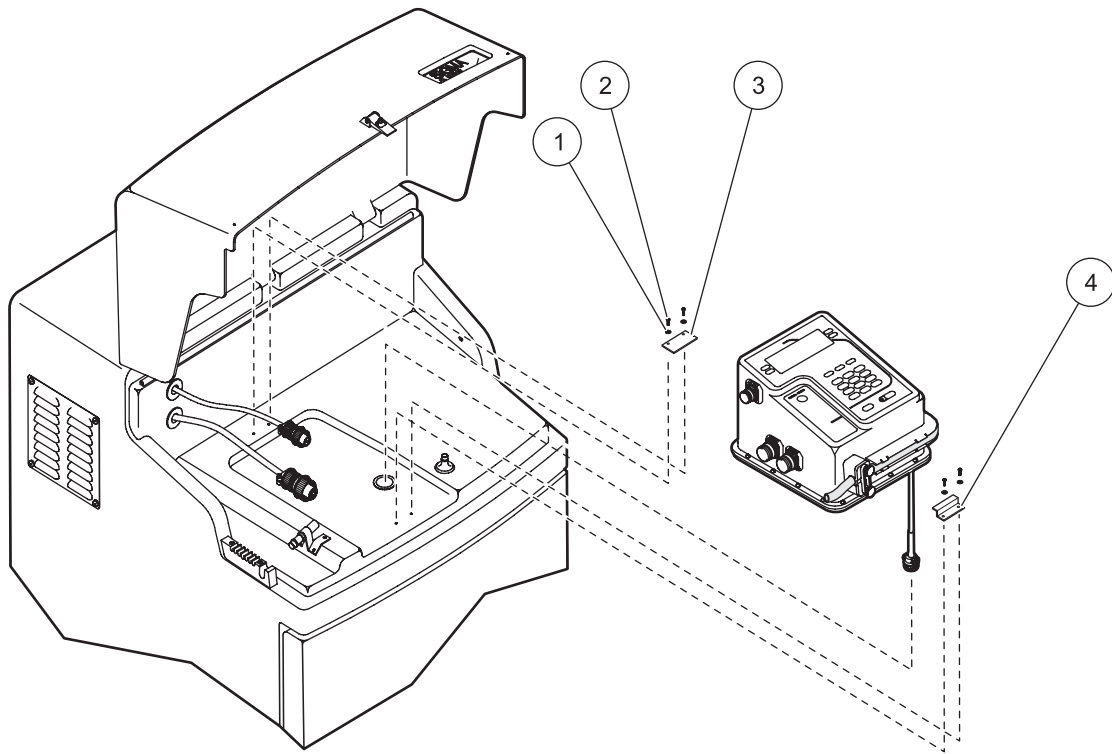

Figure 12 Removal of Sigma 900 controller from AWRS
5. Remove the front and rear brackets that secure the controller (Figure 12). Discard the brackets.
6. Lift the controller to remove it from the sampler body (Figure 12).